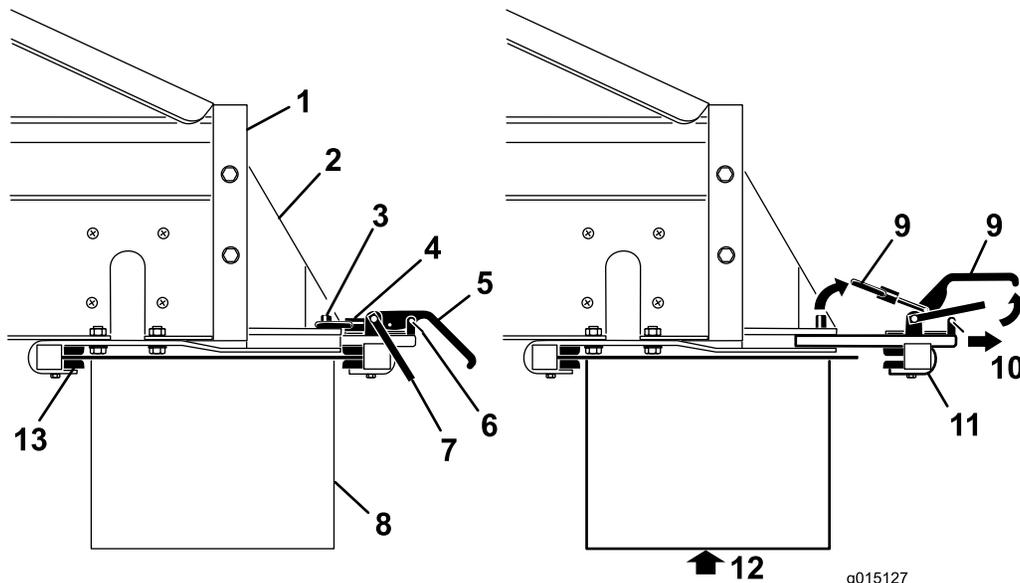

Figure 29
1. Remove the safety latch clips from the clamp handles (Figure 29).
2. Lift the safety latch, then lift the option attachment clamp handles, and release the lock rings from the lock pins (Figure 29).
3. Slide the rear option attachment clamp assembly out of the quick attach slots (Figure 29).
4. With assistance, insert the front edge of the twin spinner up and under the rear of the MH-400 into the front clamps on the brackets (Figure 29).
5. While supporting the twin spinner, slide the rear option attachment clamp assembly back into the slots in the brackets, and over the rear edge (Figure 29).
7. Reinstall the safety latch clips to the clamp handles (Figure 29).